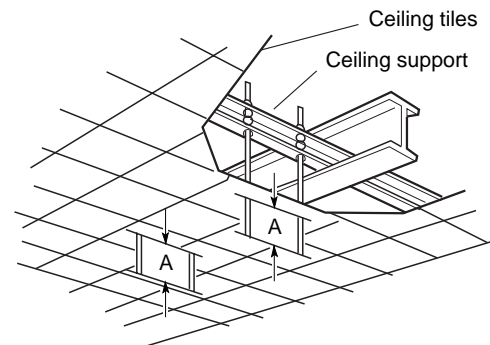
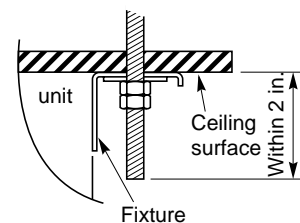

Fig. 3-57
Fig. 3-58
- b) Use existing ceiling supports or construct a suitable support as shown in Fig. 3-57.
- (4) Screw in the suspension bolts, allowing them to protrude from the ceiling as shown in Fig. 3-57. The distance of each exposed bolt must be of equal length within 2 inches. (Fig. 3-58)